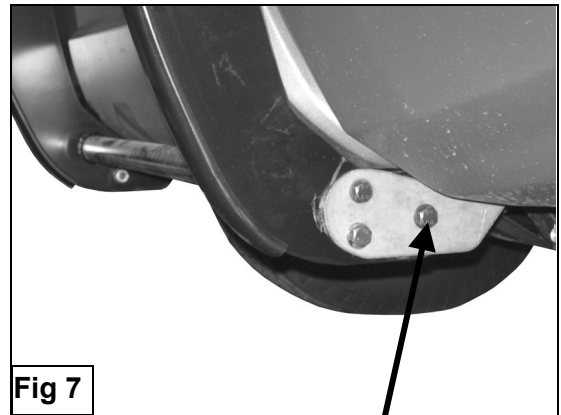

Fig 8
7. Attach Grille Guard to Top Brackets using the included (2) 6mm x 30mm Button Head Bolts and (2) 6mm Flat Washers (**Figure 8**).